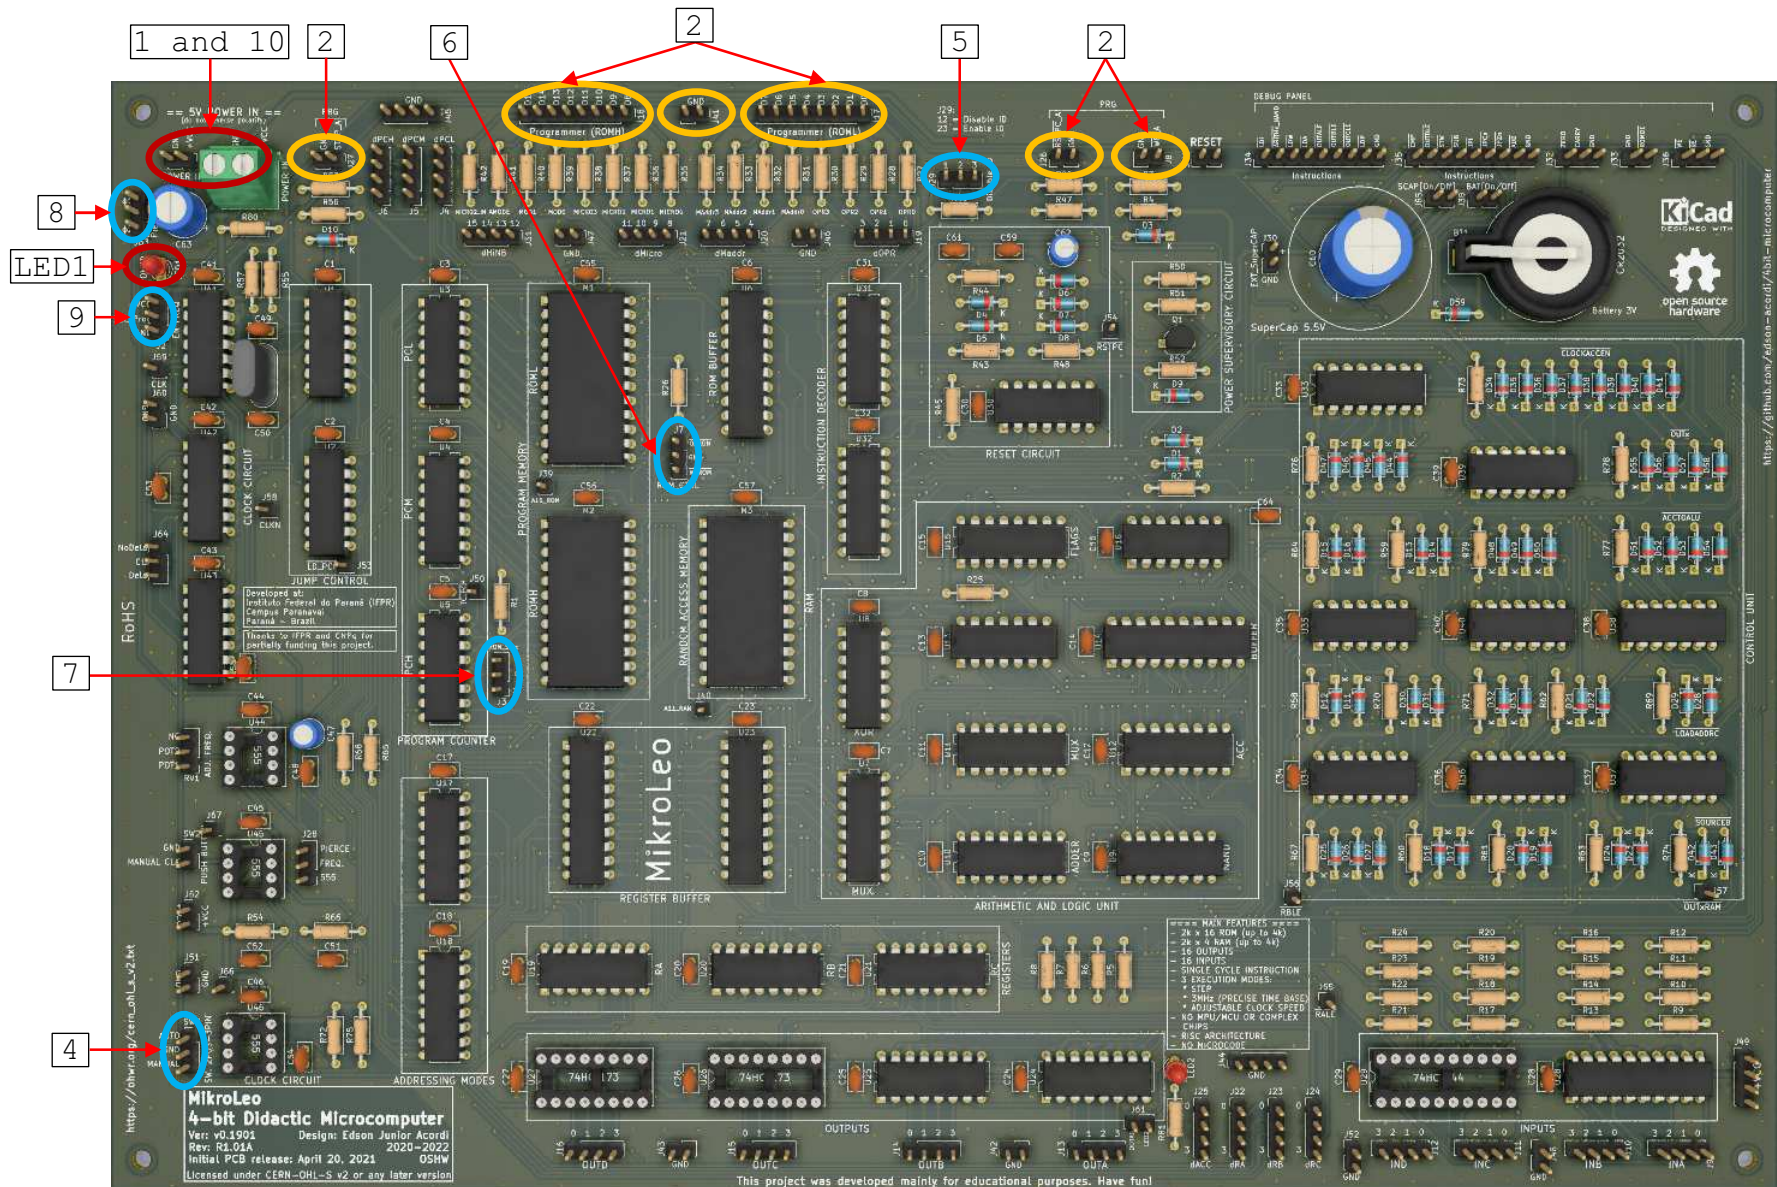
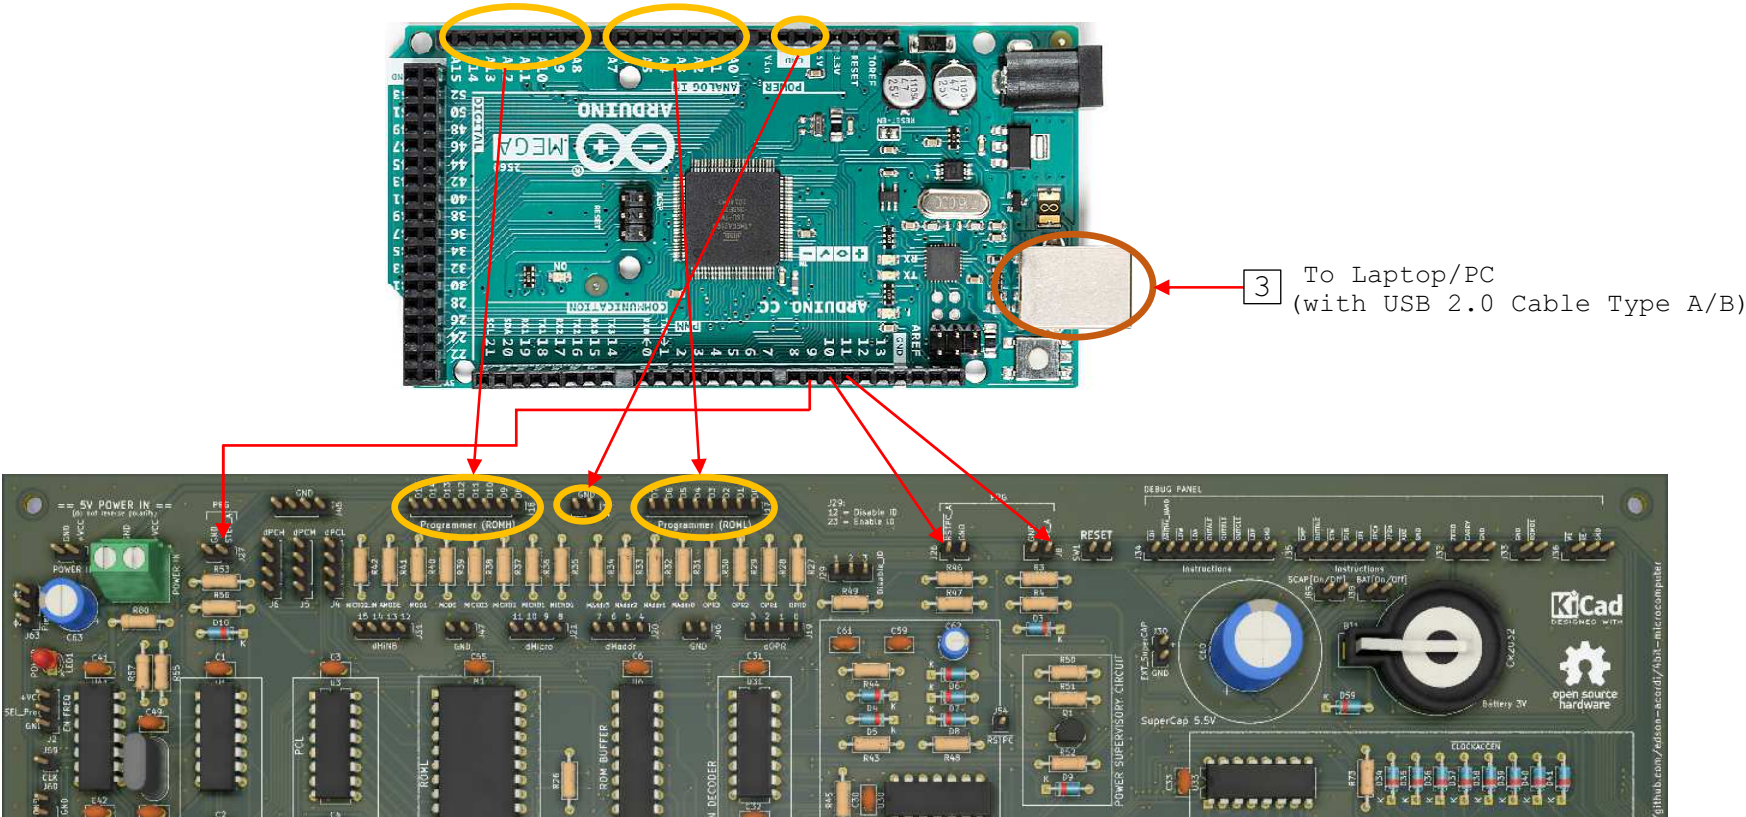

Figure 1 - MikroLeo PCB
Figure 2 - Connection of MikroLeo with Arduino
- 1) Turn-off MikroLeo (The power on is indicated by LED1) - Figure 1
- 2) Connect MikroLeo (J8, J17, J18, J26 and J27) with Arduino Mega - Figure 1 and Figure 2
- 3) Connect Arduino with a PC (with USB 2.0 Cable Type A/B) - Figure 2
- 4) Change the operation to Manual mode (SW3 - close pins GND-MANUAL) - Figure 1
- 5) Disable the Instruction Decoder (J29 - close pins 1-2) - Figure 1
- 6) Open the jumper (J7) - Figure 1
- 7) Close the pins C-2k of jumper (J3) - Figure 1
- 8) Close the pin  $\phi 1$  with the central pin of jumper (J63) - Figure 1
- 9) Close the pins CLK-Delay of jumper (J64) - Figure 1
- 10) Turn-on MikroLeo - Figure 1